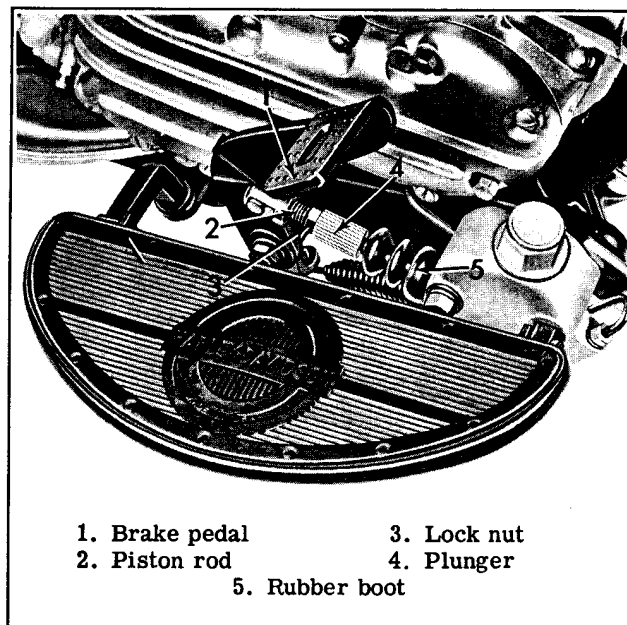

Figure 2G-7. Adjusting Rear Brake Pedal
Slip a length of appropriate size plastic tubing (2) over wheel cylinder bleeder nipple (1, Fig. 2G-6) with the other end in any container (3).
ADJUSTING REAR BRAKE PEDAL (Fig. 2G-7)